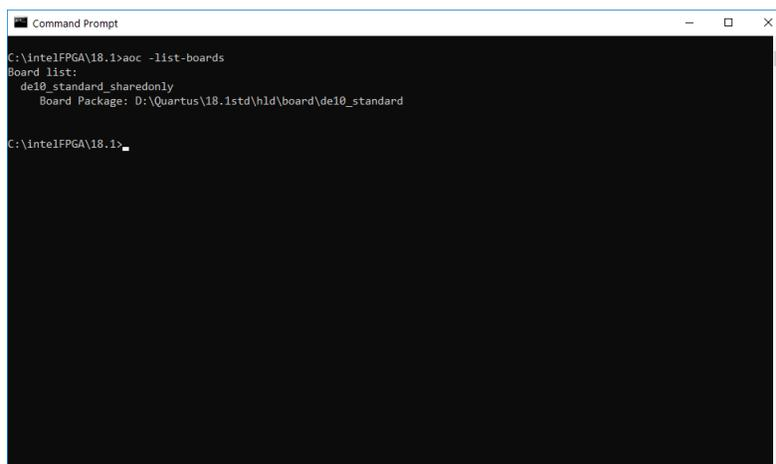

Figure 10. Verifying Board Support Package install
- To test the board support package installation run the command `aoc -list-boards` in a Windows CMD prompt or a Linux terminal. The output should list the BSP that you just added, as shown in Figure 10 for the DE10-Standard.